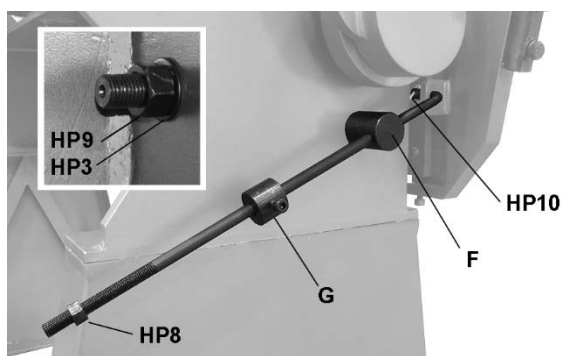

Figure 5
7. Install stop rod assembly on left side of brake, through weldment on apron, as shown in Figure 5. Secure stop rod pin (F) with flat washer and hex nut (HP3, HP9). Install cotter pin (HP10) at end of stop rod, and bend with pliers to secure.
Adjust stop collar on stop rod (Figure 5) to limit apron swing.